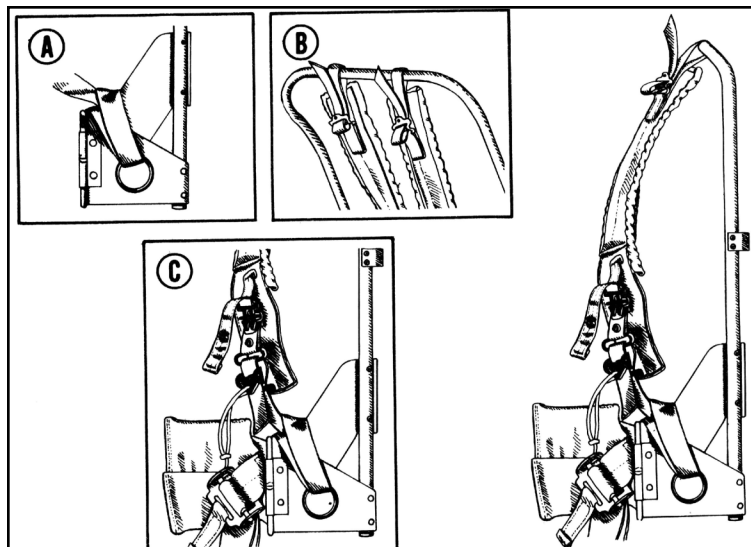

Figure 8-28: Attaching Straps to Pack Frame
**Attaching Shoulder Straps to Pack Frame.** Both shoulder straps have quick-release assemblies on them. To attach the straps (Figure 8-28):
- Insert the looped end, from the inside of the frame, through the plastic grommet to the outside of the frame. Pass the other end of the shoulder strap through the loop, and pull tight (A).
- Insert the webbed strap on the shoulder pad through the metal keeper on the top of the pack frame (B). **Make sure the padded side faces inward and right and left strap are on the correct side.**